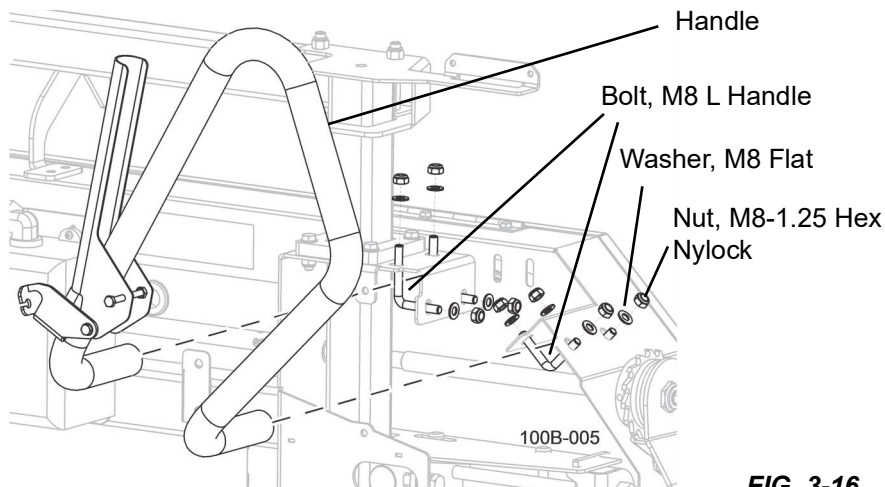

**FIG. 3-15**
- Attach the stop blocks (X100-1275) on the outside surface of the bed section at the head of the bed using M10-1.5x30 bolts. Tighten the nuts. See FIG. 3-15.